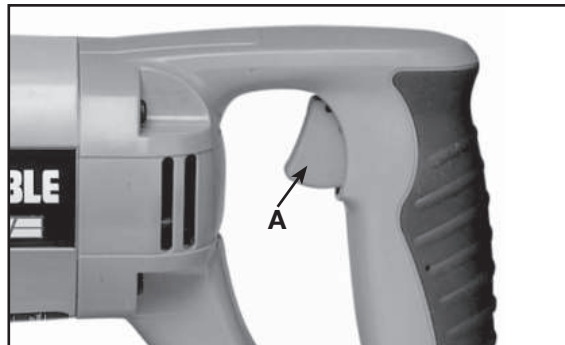

Fig. 9
2. Hold saw firmly. Squeeze trigger switch (A) Fig. 9, to start motor. Release trigger to stop motor.